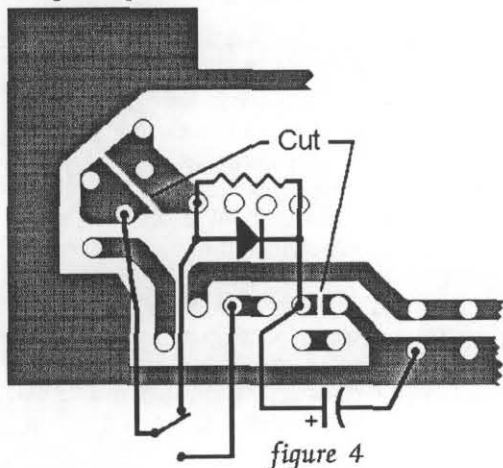

figure 4
4. Find the solder pad on the bottom of the PC board to which pin 1 of U2-A, R10, C5 and two pins of R8 are soldered. Refer to Figure 4 and the pictorial drawings in the WM-1 manual for help.
5. With a small sharp knife (X-Acto, etc.), carefully cut a slot in this solder pad to isolate R8 from the other components, as shown in Figure 4. Use an ohmmeter to make sure it is isolated.
7. Find the pad to which pin 5 of U2-B is connected; carefully cut the PC trace to the adjacent pad as shown in Figure 4. Again, check your work with an ohmmeter.